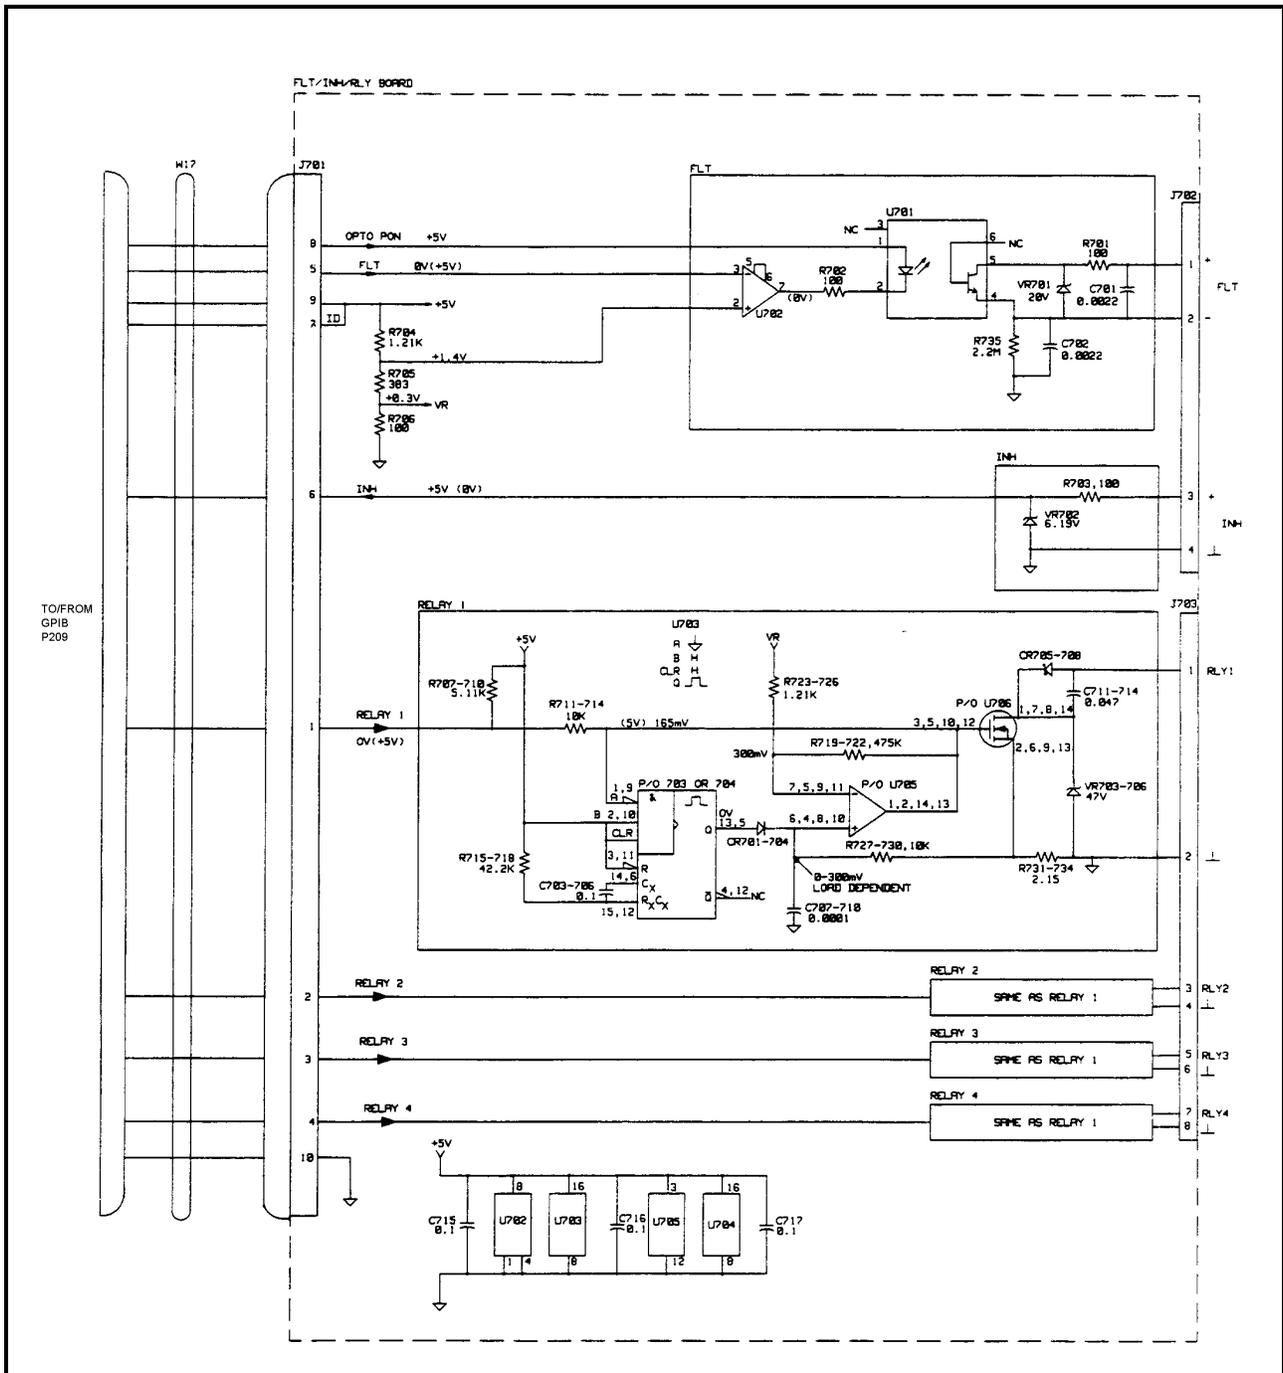

Figure 7. FLT/INH/RLY Board Schematic Diagram
If any of the tests indicate a failure, measure the voltages on J701 and compare them to those shown in Figure 7 (Option 750 schematic). If the measured voltages on J701 are correct, trouble shoot the Option 750 board. If the measured voltages on J701 are incorrect, perform signature analysis on U204 of the GPIB board using the signatures listed below.
5. All voltages shown on Figure 7 (Option 750 schematic) are shown with respect to power supply ground.